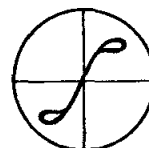

FIG. 1
5. Turn variable condenser fully open and band switch to right (FM).
8. Adjust ratio detector secondary slug No. A8 to center the cross over point of the pattern. Pattern should look like Fig. 1, with the same amount of curve on both ends, and the cross over point in the center.